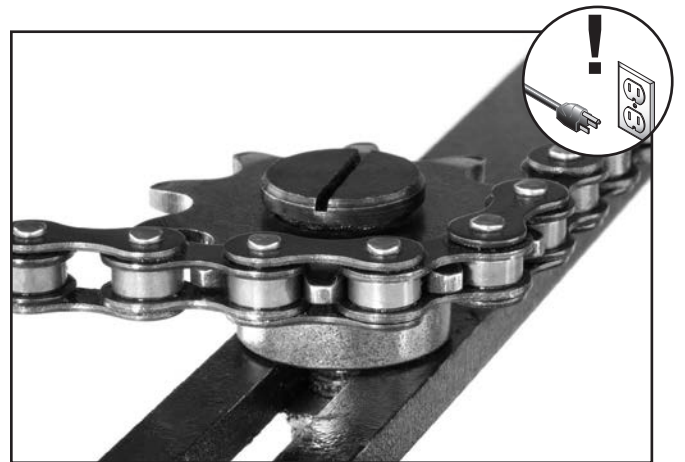

Figure 39. Idler roller sprocket.
5. Loosen the chain by loosening the hex nut on the bottom of the idler roller sprocket shown in **Figure 39**.
13. Loosen the idler roller sprocket (**Figure 39**), carefully pull the chain off of all the sprockets, and remove it from the cabinet.